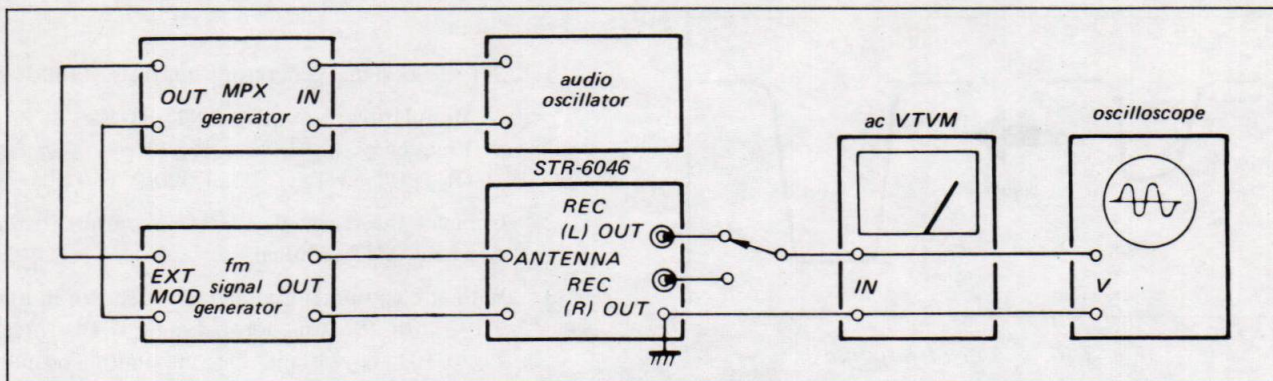

Fig. 3-13. Fm stereo separation adjustment test setup
1. Connect the equipment as shown in Fig. 3-13. Set the fm signal-generator's control as follows:
- (a) With the equipment connected as shown in Fig. 3-13 set the MPX stereo generator controls as follows: